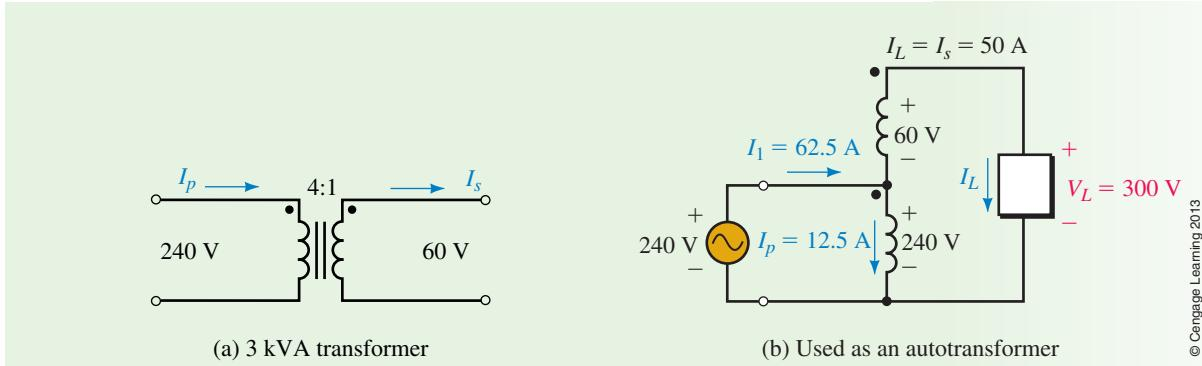

FIGURE 23-33
For analysis, an autotransformer may be viewed as a standard two-winding transformer reconnected as in Figure 23-33(b). Voltage and current relationships between windings hold as they do for the standard connection. Thus, if you apply rated voltage to the primary winding, you will obtain rated voltage across the secondary winding. Finally, since we are assuming an ideal transformer, apparent power out equals apparent power in.
A 240/60-V, 3-kVA transformer [Figure 23-33(a)] is reconnected as an auto-transformer to supply 300 volts to a load from a 240-V supply [Figure 23-33(b)].
- b. Since the 60-V winding is rated at 50 A, the transformer can deliver 50 A to the load [Figure 23-33(b)]. The load voltage is 300 V. Thus,